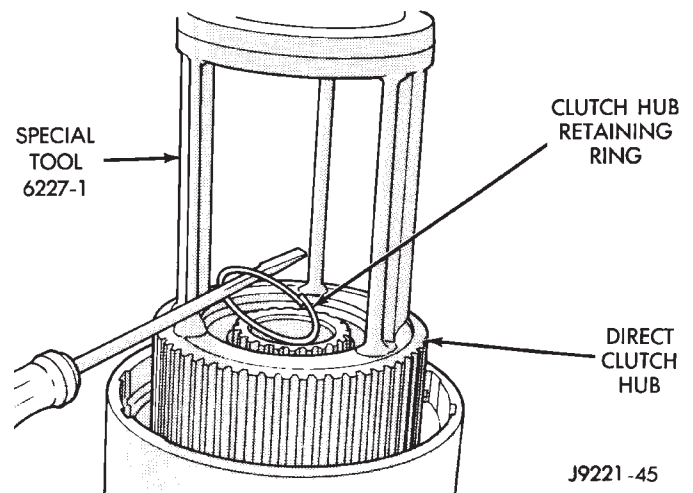

Fig. 316 Removing Direct Clutch Hub Retaining Ring
- (7) Remove direct clutch hub retaining ring (Fig. 316).
- (8) Release press load on clutch spring **slowly and completely**. Remove press tools and geartrain.